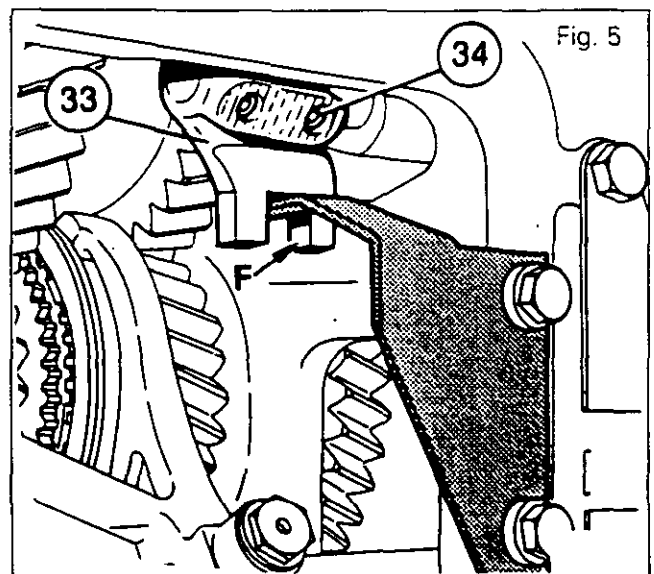

Fig. 5
21. Position the selector (33) to the neutral position. Fit and tighten tool 3582434 M1 (see Part C) with two bolts (Fig. 5).
23. Position face F of the reverse gear selector in contact with the tool using bolts (34) (Fig. 5).